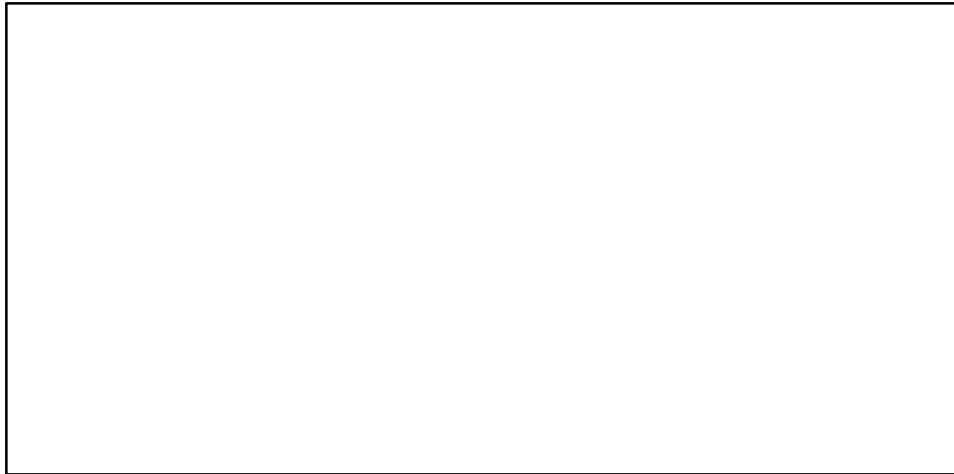

Figure 16 – Capacitor C4 discharge circuit during the S wave.
15. Supposing that pin 7 (output 3) from the HCF4017B chip opens when the logic is “0”, draw the capacitor C4 discharge circuit in Figure 16. This signal will be the S segment of the ECG signal.